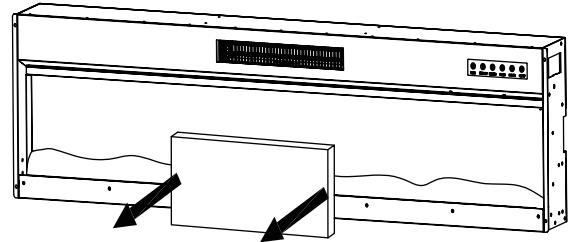

Figure 3
(3) Remove the pear wool from inside the unit. (Figure 3)